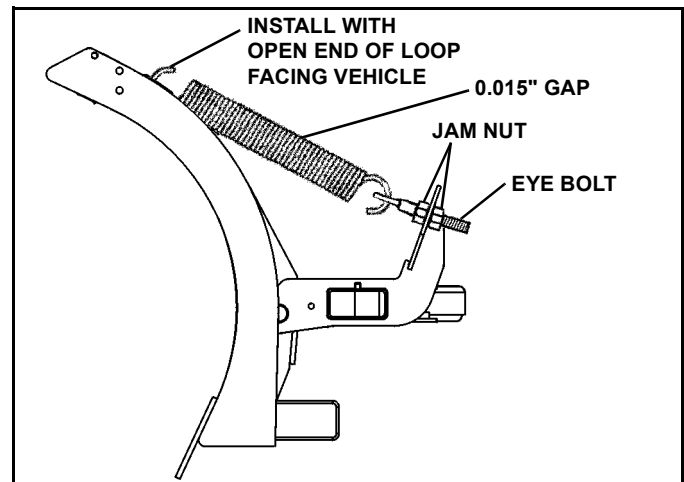

Figure 1-6
6. Remove the springs from the power pack carton. Hook springs onto blade with open end of loop facing up. (See Figure 1-6).
7. Hook other end of spring onto eyebolt. Insert one eyebolt on each side of the blade into the hole on the swing frame spring bracket. Use a nut on either side of bracket to secure. (See Figure 1-6).